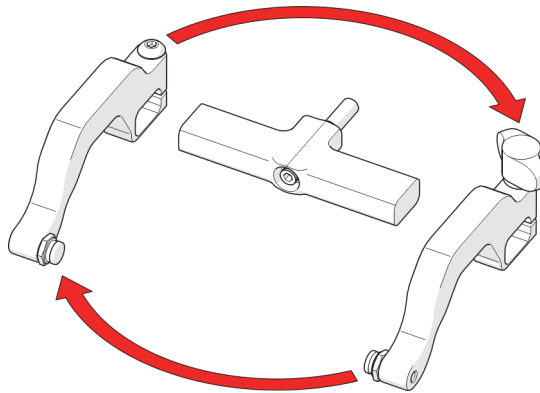

Figure 2-113 Reverse position around yoke
4. Position the removed arms to the opposite sides of the yoke (see Figure 2-113 on page 120).